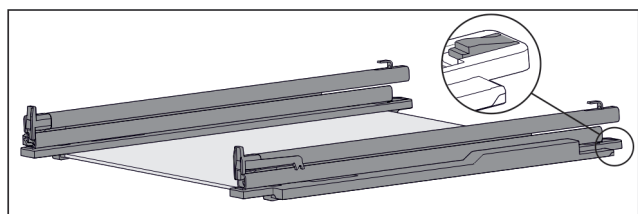

Fig. 133 Glass shelf with rails and retaining parts
- ▶ Press down retaining part at the rear (see Fig. 133) and at the same time push the rail back.